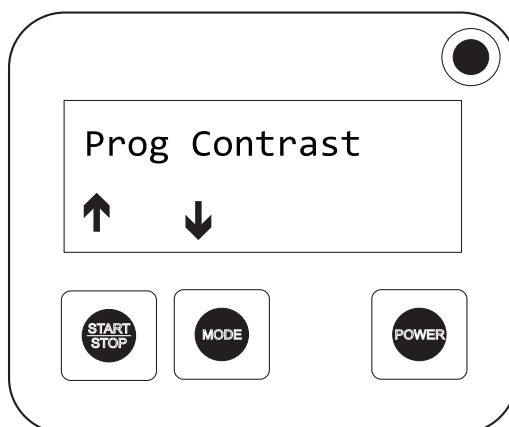

Figure 11 Program contrast screen
3. Press and hold the **MODE** key for one second, until two beeps are heard. The Program Contrast screen is displayed (refer to Figure 11).